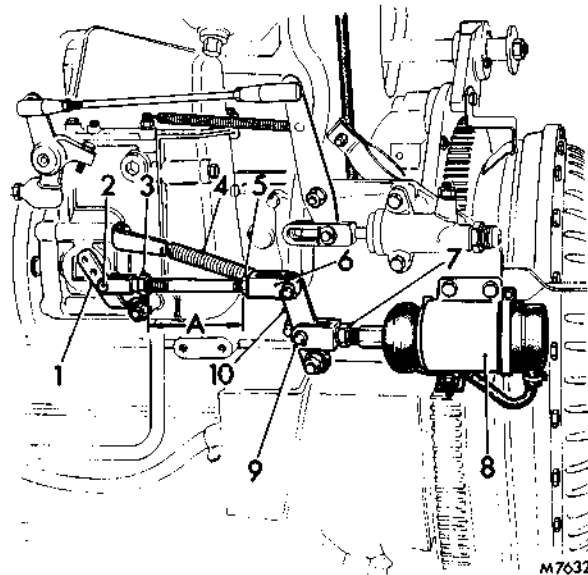

FIG. 1. ENGINE STOP SOLENOID
1. Check that fuel pump lever, Fig. 1, item (1) is hard against stop with solenoid de-energised. If not, this may be due to incorrect adjustment of link allowing solenoid plunger too much travel.
The engine stop solenoid is a short-rated type with replaceable coils, connected directly to the fuel pump lever by a short connecting link, Fig. 1.
If it is necessary to remove the plunger, note distance between locknuts, 'A' Fig. 1, first. Plunger can then be released by slackening locknut (7) and removing clevis pin (9).